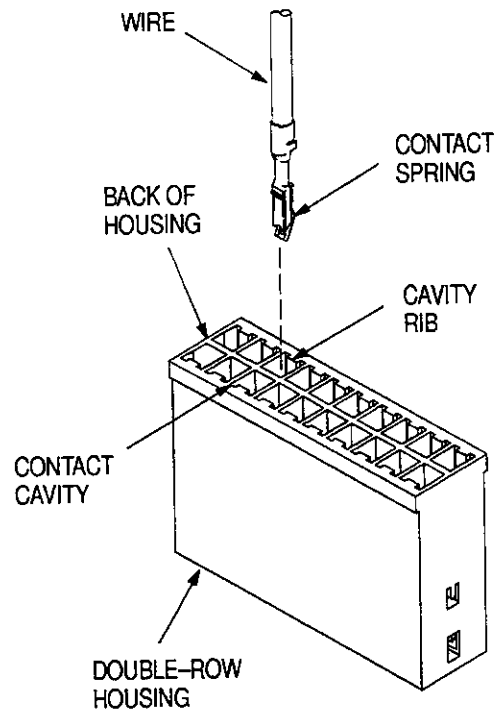

Figure 3
3.2. Inserting Contacts into Housings (Figure 3)